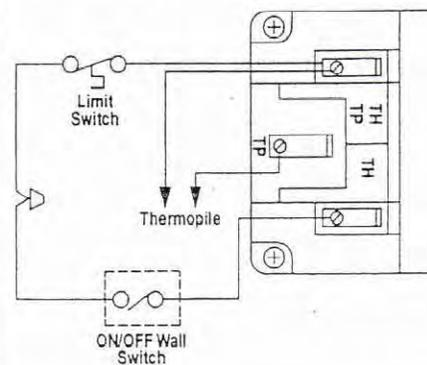

Figure 16
**Step 9. Millivolt Wiring –** The burner tray has been fixed in place and has been pre-wired at the factory. The only required wiring is to locate and install the wall switch in a desired location and connect the millivolt wire to the wall switch. (Refer to Figure 16).